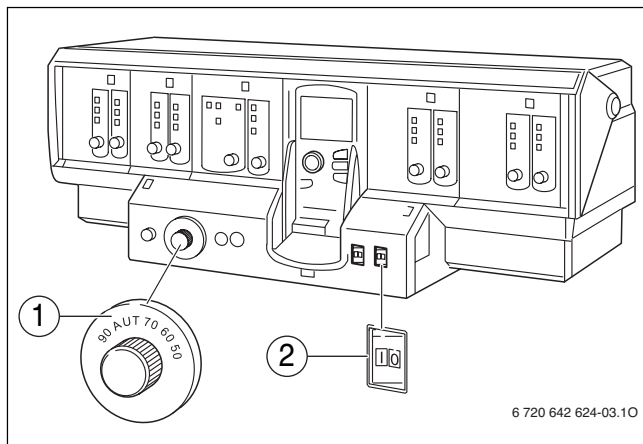

Fig. 4 Control panel (for example: Logamatic 4000)
Start your boiler via the control panel (→ Fig. 4). By starting the control panel, you also automatically start the burner. The burner is then fired by the control panel. For further details, see the operating instructions of the relevant control panel or burner.
- ▶ Switch the boiler water thermostat (→ Fig. 4, [1]) to "AUT".
- ▶ Set the ON/OFF switch (→ Fig. 4, [2]) to "I" (ON).
Shut down your boiler via the control panel (→ Fig. 4). The burner is automatically shut down when the control panel is switched off.
- ▶ Set the ON/OFF switch (→ Fig. 4, [2]) to "0" (OFF).